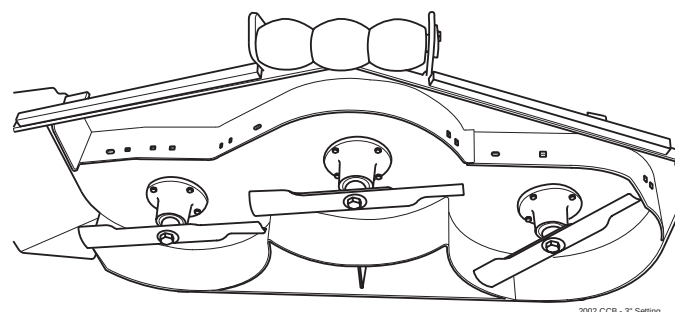

Figure 9. 3" Custom Cut Baffle Position
- A. 3" Position - baffle removed. (See Figure 9). With the baffle removed, the Advantage cutter deck will deliver the best quality-of-cut in very tall, wiry, tough to cut grass.
2. Move the Custom-Cut Baffle to desired position. (See Figures 9 through 11 for position)